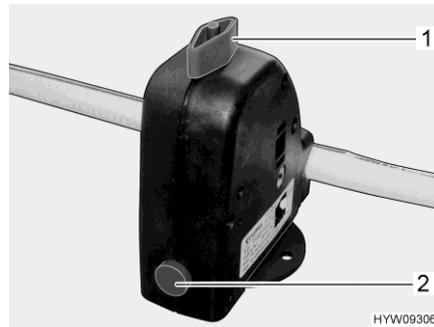

Fig. 208 Safety/drainage valve
The boiler is equipped with a safety/drainage valve (Fig. 208). The safety/drainage valve prevents water in the boiler from freezing, when there is frost and the heater is not switched on.
- Close the safety/drainage valve. Turn the knob (Fig. 208,1) perpendicular to the safety/drainage valve and push the push button (Fig. 208,2) in.
- Open the safety/drainage valve. To do this turn the knob (Fig. 208,1) parallel to the safety/drainage valve. The push button (Fig. 208,2) jumps out. The boiler is drained to the outside by the safety/drainage valve.